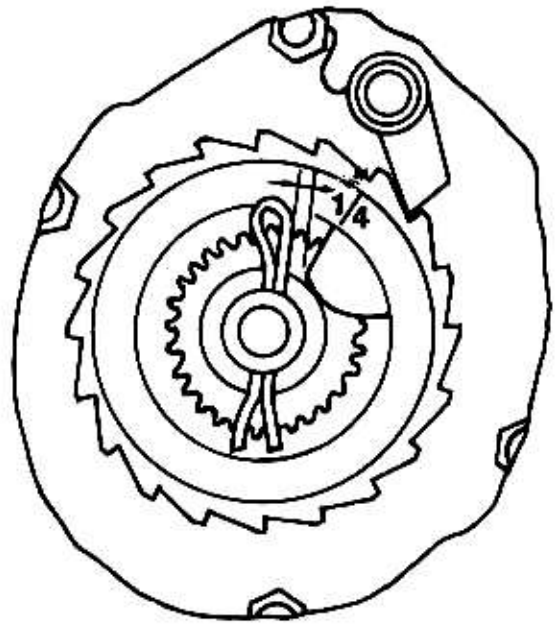

Fig. 2
- (A) Unscrew 4 screws to remove handwheel cover. Pull cover and lift hand chain from handwheel, chain will remain looped through handwheel cover. If it is necessary to remove hand chain, find the unwelded link and bend open for removal.
- (B) Grasp handwheel and pull. After removal, the complete handwheel and brake assembly may be more conveniently placed in a soft jawed vise for disassembly.
- (C) Remove cotter pin and unscrew (counter clockwise) the handwheel from spindle. See Fig. 2 Page 8 for reassembly adjustment.
- (D) Lift off brake disc, ratchet, and second brake disc.
- (E) The pawl retaining ring and pawl spring nut should be removed to permit the pawl and pawl spring to be disassembled. The pawl stud can be removed by turning counter clockwise.
- (F) When reassembling, the smaller of the two brake discs is placed on the spindle last (against the handwheel assembly).